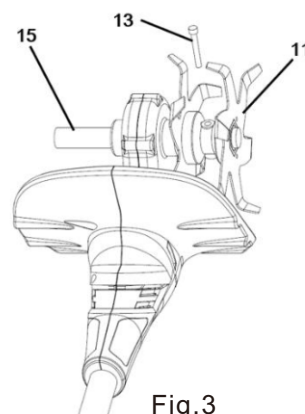

Fig.3
- 3.Insert the hex socket screw 13 into holes C and B, and tighten the hex socket screw 13 using a hex socket wrench.(Fig3)